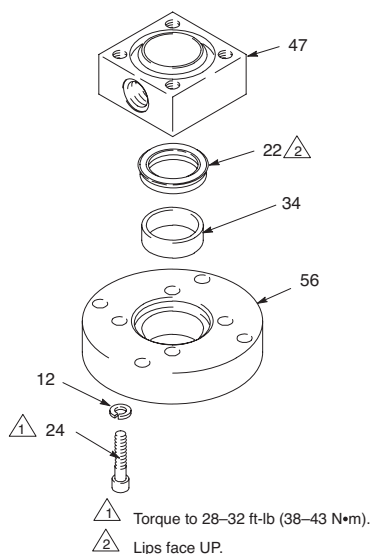
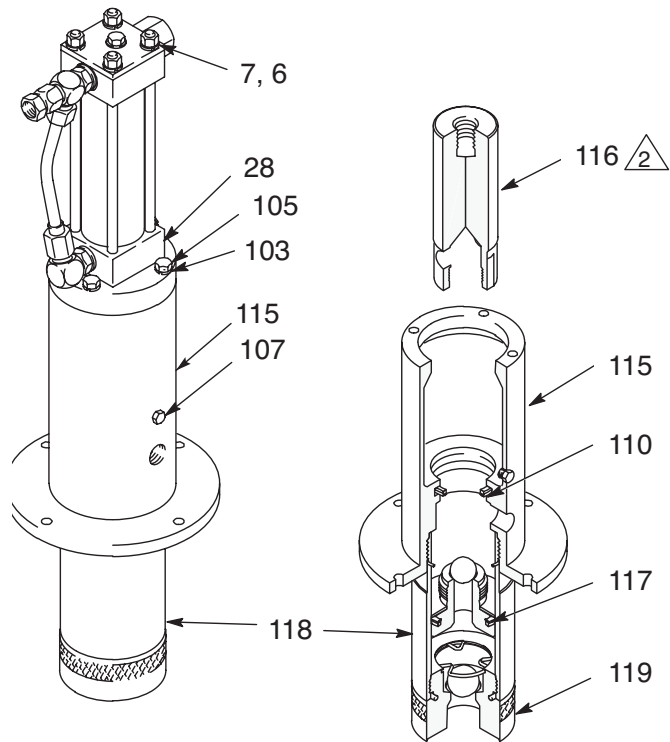

FIG. 4
FIG. 5
Refer to FIG. 4 for the following instructions.
NOTE: Replace these seals if fluid leaks excessively through the porous plug (107), see FIG. 5. This procedure can be done without disassembling the entire reciprocator.
3. Remove the four capscrews (24) and washers (12) from the bottom of the retainer housing (56). Tap the retainer housing to loosen it and pull it off the bottom cap (47).
4. Remove the seal (22) and sleeve bearing (34) from the top of the retainer housing (56).
5. Lubricate the sleeve bearing (34) and install the seal and sleeve bearing in the retainer housing (56) in the order shown in FIG. 4.
6. Reassemble. Torque the capscrews (24) to 28-32 ft-lbs (38-43 N.m). Install the displacement pump. Follow Step 22 on page 16.
4. Slowly loosen the hydraulic hoses to the supply (26) and return (25) fittings to relieve any pressure and then remove the hose. Install plugs on the tube fittings and in the hose ends. Check the o-ring (13) on the fitting and replace if worn or damaged. See FIG. 4 and the Parts Drawing on page 18.
5. Using a strap wrench on the pump cylinder (118) screw it out of the base (115) and remove it.
6. Place the piston (117) in a vise and loosen the piston rod (116).
7. Remove bolts (105) and washers (103).
8. Push the piston rod (116) up through the base (115) and remove it.
9. Remove the throat seal (110).
Refer to FIG. 5 for the following instructions.